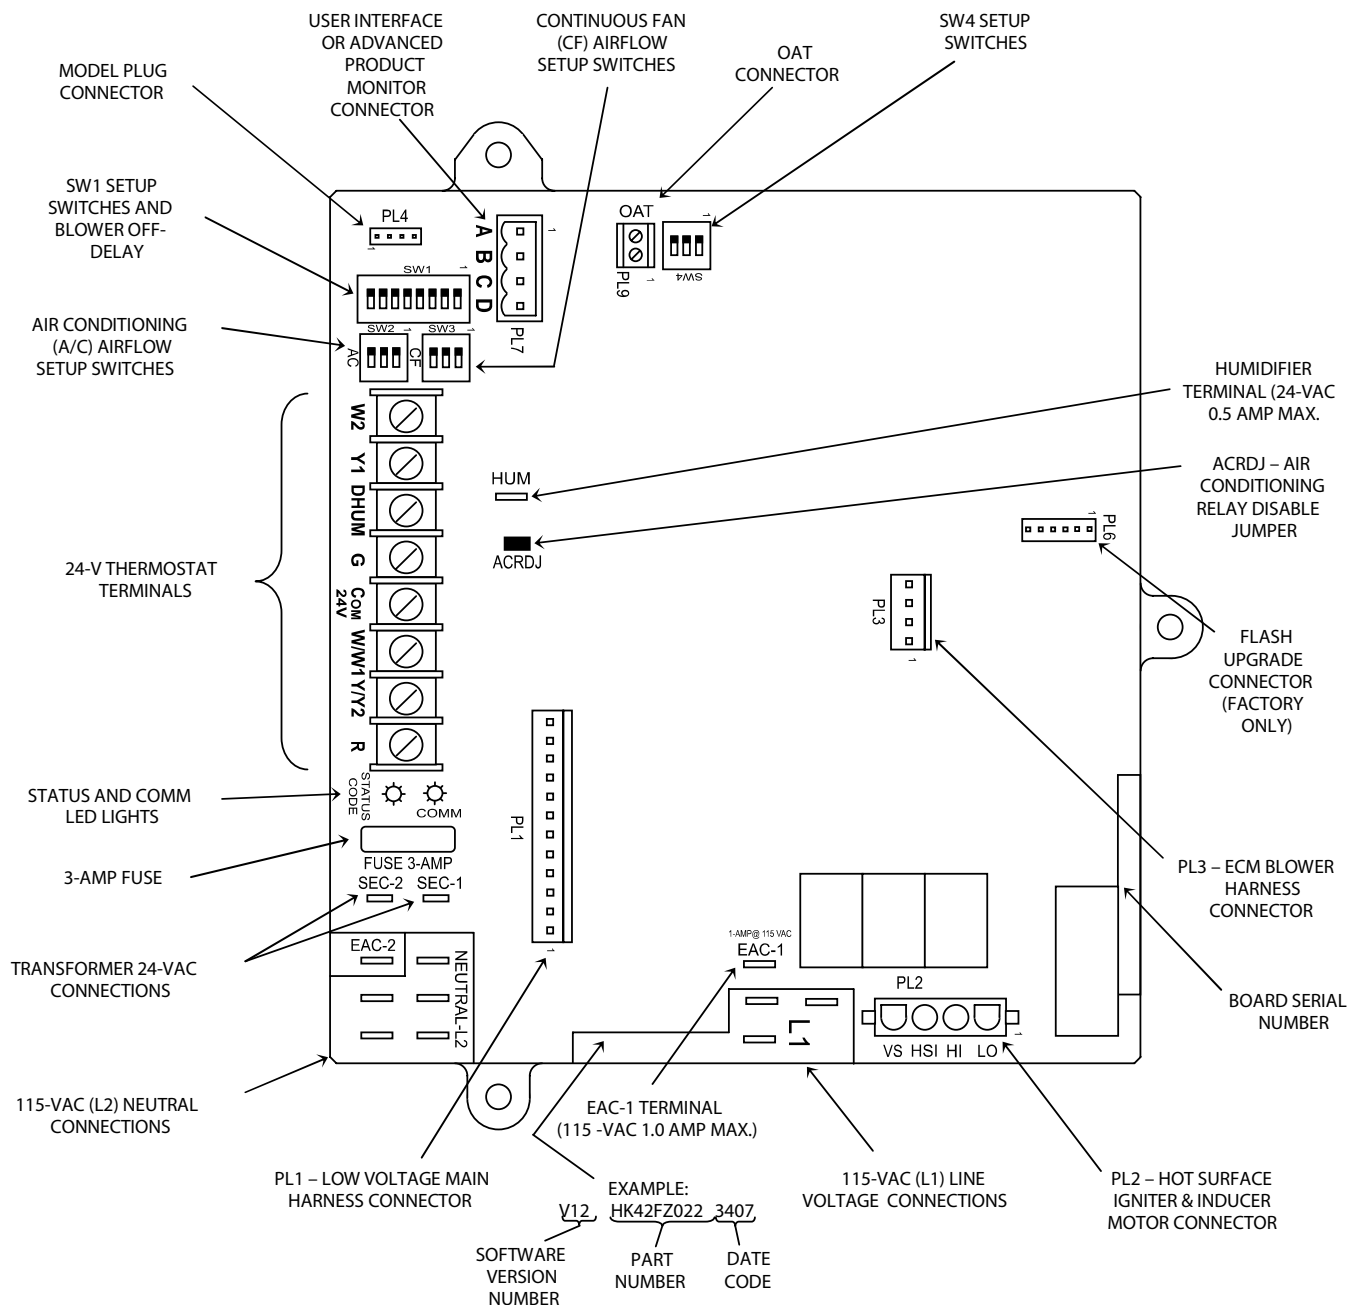

**Fig. 16 - Variable Capacity Furnace Control**
The 24-v circuit contains an automotive-type, 3-amp fuse located on the furnace control. (See Fig. 16.) Any direct shorts of the 24-v wiring during installation, service, or maintenance will cause this fuse to blow. If fuse replacement is required, use **ONLY** a fuse of identical size. The furnace control LED will flash status
- e. Turn setup switch SW1-1 to ON position. (See Fig. 16 or 21 for location.)
- c. Turn setup switch SW1-1 to ON position. (See Fig. 16 or 21 for location.)